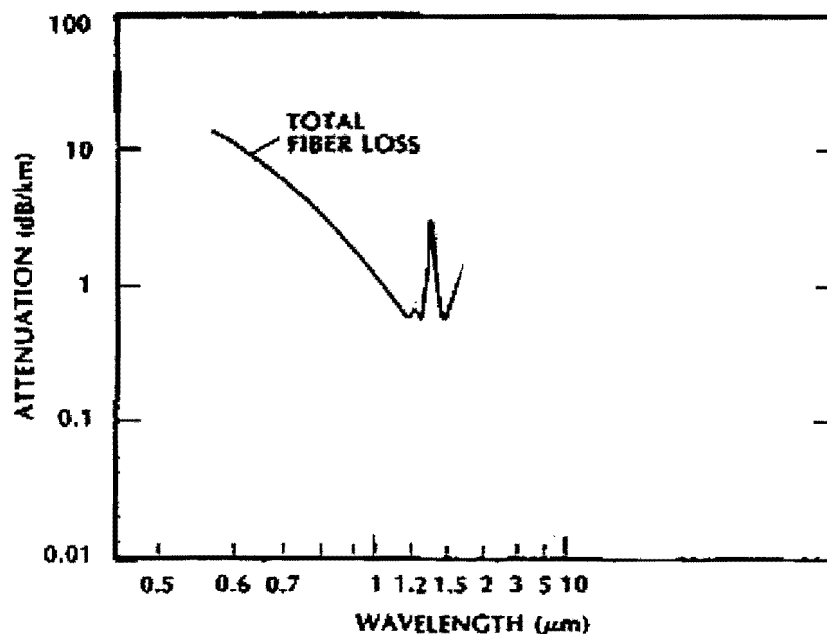

Figure 1
- b. Sketch and name various losses that have contributed to the total fiber loss curve shown in Figure 1. [6 marks]